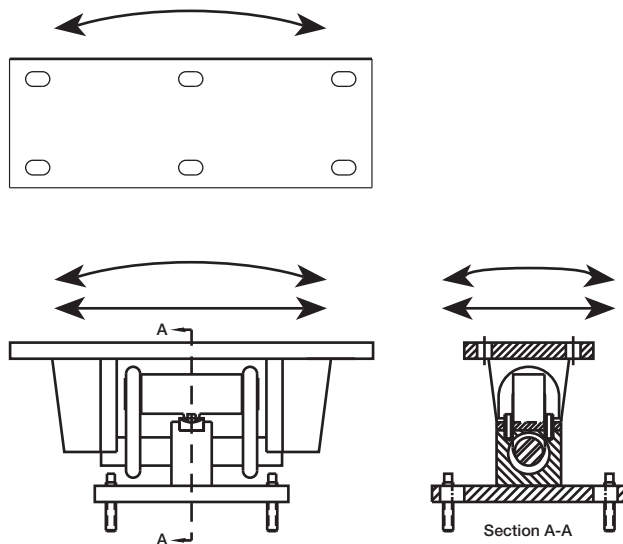

Figure 15-9.
3. This arrangement allows movement in all horizontal directions, as shown in Figure 15-9.